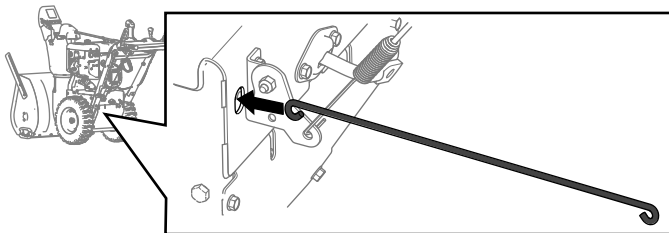

Figure 8
1. Insert the new traction rod through the rear of the machine (Figure 8).